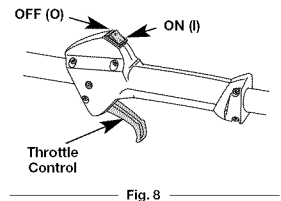

Fig. 8
- NOTE:** There is no need to turn the unit on. The On/Off Stop Control is in the ON (I) position at all times (Fig. 8).
2. Press and hold the On/Off Stop Control switch in the OFF (O) position until the unit comes to a complete stop (Fig. 8).